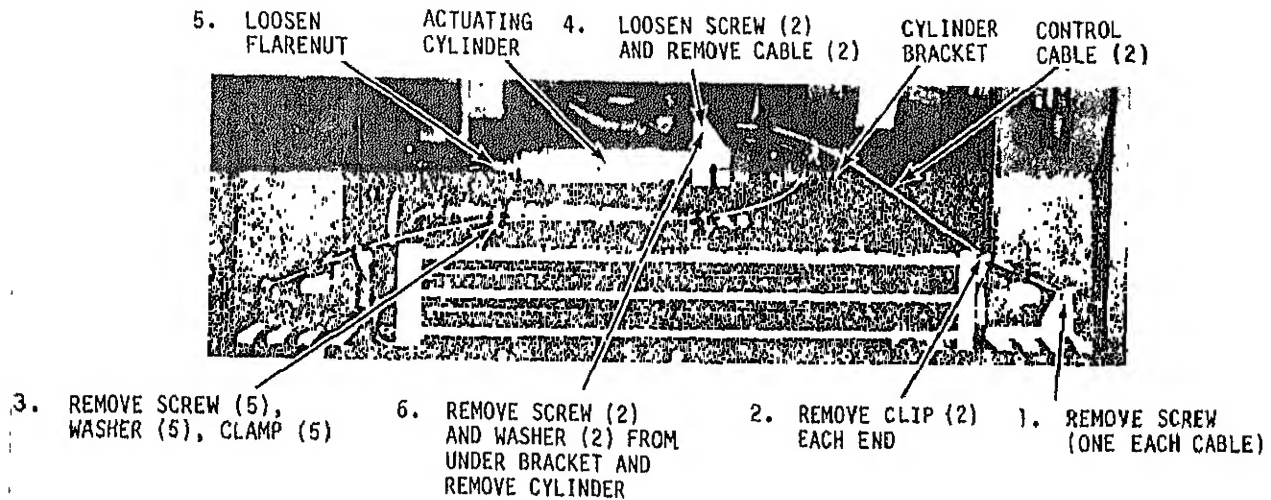

Figure 5-5. Condenser louver control, removal and installation
(3) Refer to figure 5-5 and loosen mechanical post screws at each end to loosen control wire.
(4) Remove screw, lockwasher and loop clamp.
(5) Remove push-pull control assembly clips at each end and remove push-pull control.
(6) Disconnect flare nut from end of actuator cylinder.
(7) Remove two nuts and lockwashers from bracket and remove actuator cylinder. If cylinder is to be replaced, remove rivets and retain push-pull control assembly brackets.
(1) Reinstall push-pull control assembly brackets on replacement cylinder.
(2) Install actuator cylinder (figure 5-5) with studs through openings in bracket. Install lockwashers and nuts on studs.
(3) Connect flare nut.
(4) Install push-pull control. Place outer control casing clips over wire and insert wire ends into openings in mechanical posts on louver lever and actuator cylinders.
(5) Install push-pull control clips to hold control in position. Install loop clamp, screw, and lockwashers.
(6) Adjust control as described in c. below.